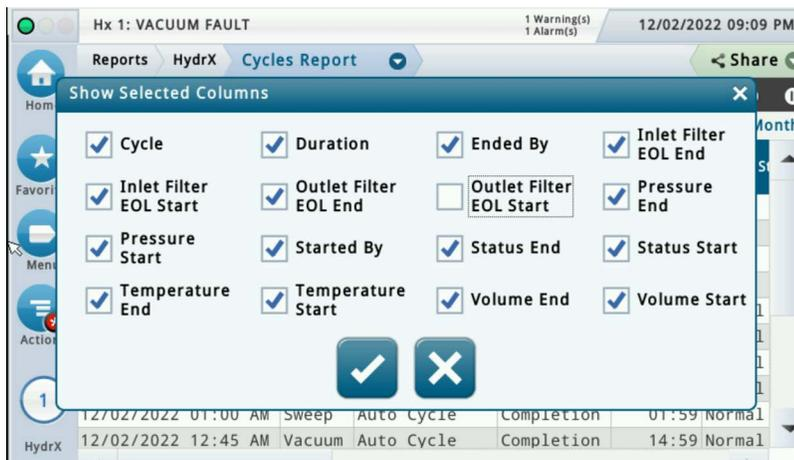
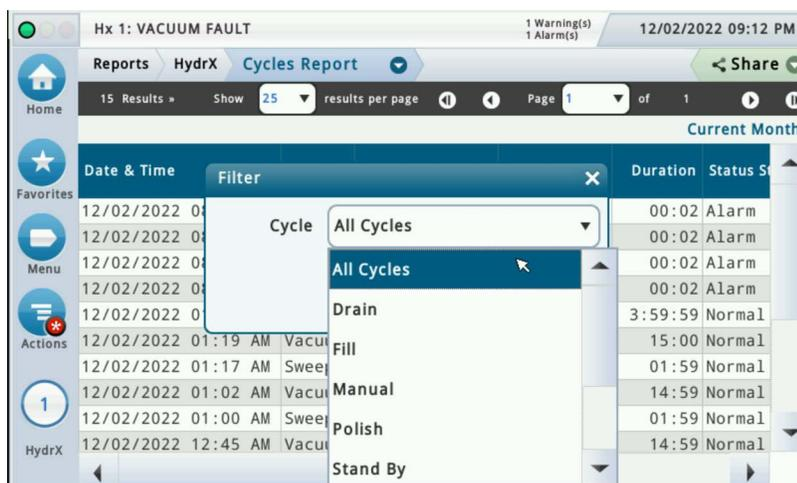

Figure 27. Show Selected Columns Menu - HydrX Cycles Report
Figure 28. Filter Menu Selections - HydrX Cycles Report
3. Touch the Actions button to modify table contents (see Figure 27 and Figure 28).